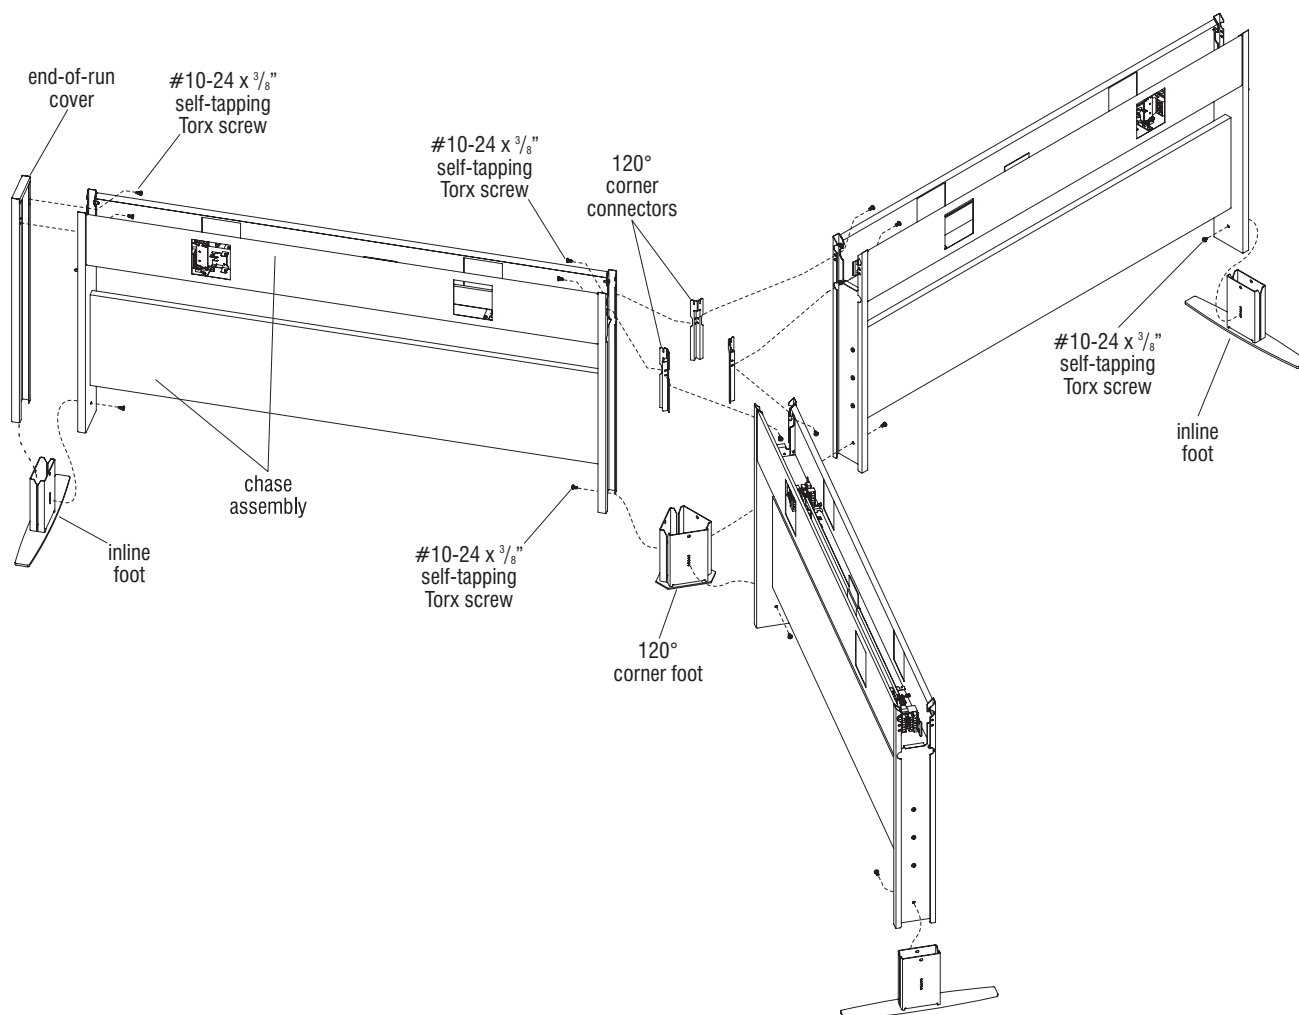

Figure 4 - Three-Way 120° Intersection
Note: The instructions below and Figure 4 illustrate a three-way, 120° configuration of chase assemblies. Please reference appropriate instructions and the space-planning layout to determine the location and configuration of the room.
the inline foot, simply insert the bottom open end of the leg over the upright bracket of an inline foot as illustrated (Figure 4).
3. To install chase assemblies into a three-way intersection, one at a time position a chase assembly over a 120° corner foot as shown. Insert the lower part of the chase assembly leg over the upright bracket of the 120° corner foot, in a similar manner as installing to an inline foot (Figure 4).
be used at the top. Orient the three inner connectors between the adjoining chase assemblies as illustrated, aligning two holes of each chase assembly with the two holes on each flange of the connector. Using a 6" long T-25 driver (provided), secure each connector to both adjoining chase assemblies as illustrated with one #10-24 x 3/8" self-tapping Torx screw at each 120° corner connector flange (Figure 4).